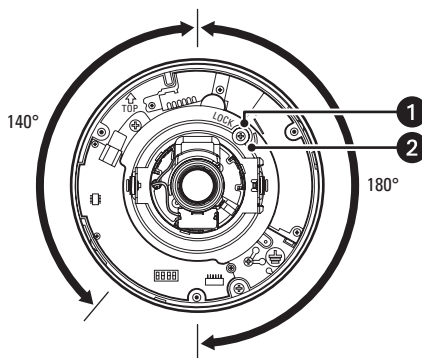

Figure 35. Adjusting the Panning Position
1. Rotate the panning table (320-degree range) to adjust the panning position of the camera (refer to Figure 35). The adjusting range is from +180 degrees (clockwise) to -140 degrees (counterclockwise).